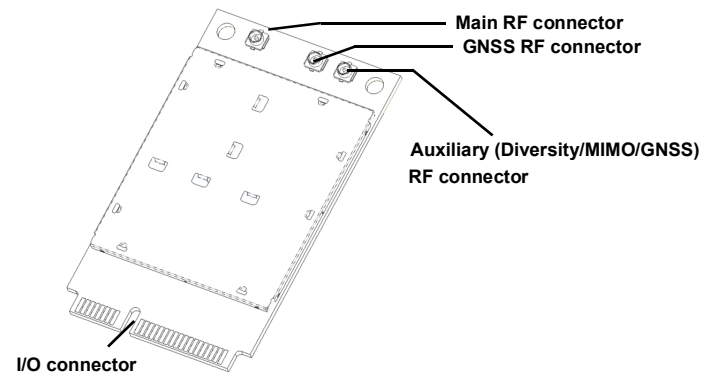

Figure 3-1: Module Connectors (Preliminary shield design, subject to change)
- Use Hirose U.FL connectors (3 mm x 3 mm, low profile; model U.FL #CL331-0471-0-10) to attach antennas to connection points on the module, as shown in Figure 3-1 on page 35.
- Connect to system ground using the two mounting holes at the top of the module (shown in Figure 3-1 on page 35).